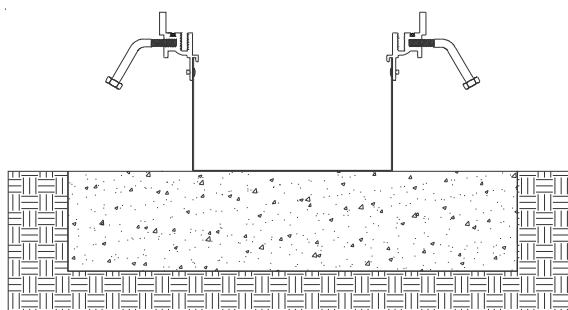

Figure 4
STEP 5. Remove the cover plate from the frame (see Figure 4).